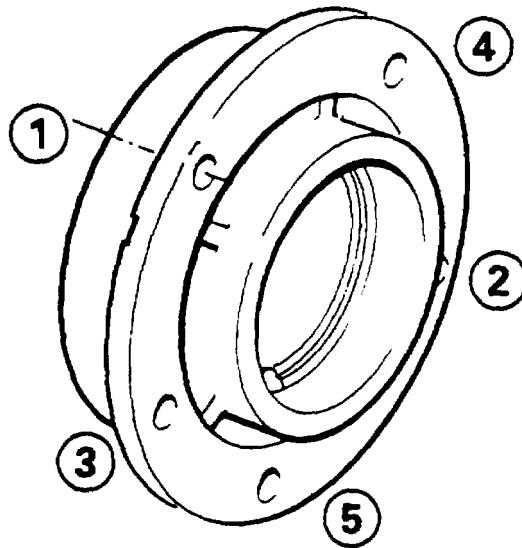

FIGURE 3-42. Bearing Housing Capscrew Tightening Sequence
- (6) Install assembly into housing (3) from oil seal side (crankcase outside face) with pilot pin in line with oil feed hole in housing.
- (7) Place bolt through assembly.
- (8) Install bridge, spacer, and nut onto bolt.
- (9) Tighten nut until driver is against face of collar.
- (10) Remove tool.
- (11) Check that oil hole in bearing shell (7) is correctly aligned with oil feed hole in housing (3).
- b. Lightly grease steel back of thrust bearing (5) with general purpose grease (630AA) and position it in housing (3). Ensure that tab is correctly located and copper face will be toward crankshaft.
- c. Coat both sides of a new main bearing housing shim (4) with sealing compound (MIL-R-46082). Install it to housing (3) with flat side towards crankcase.
**Two sizes of shim (4) are available; 0.015 and 0.020 in. (0.38 and 0.5 mm). Start with smaller shim and check end play.**
- d. Position housing (3) with shim (4) on crankcase and secure with five capscrews (2). Tighten capscrews to 240 in-lbs (27.2 Nm) in sequence shown in FIGURE 3-42.